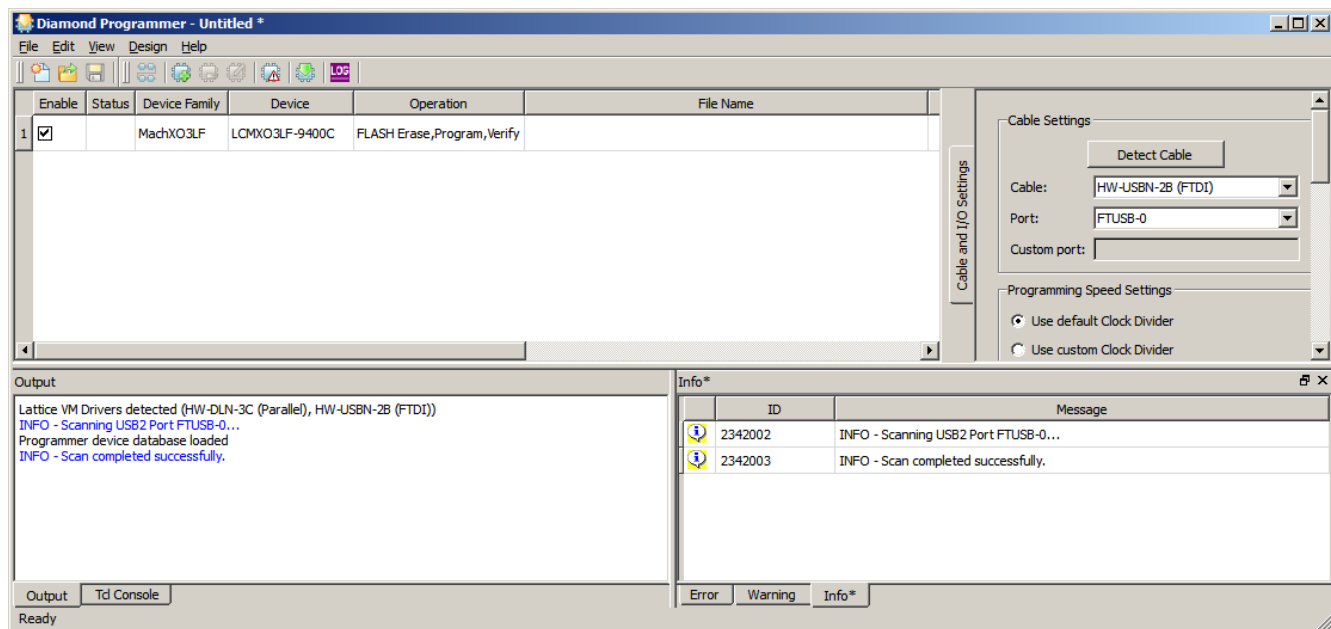

Figure 7.2. Diamond Programmer Main Interface
3. The Diamond Programmer starts scanning the board attached to the USB cable (Figure 7.2).